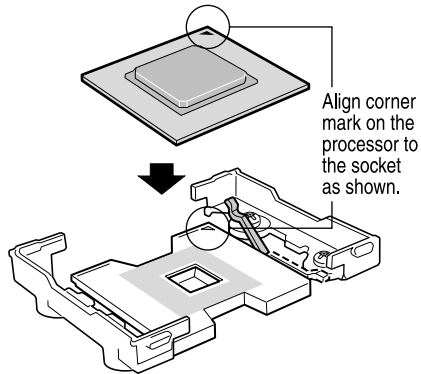

FIGURE 5-17 Inserting the Processor
4. **Insert the processor into the socket as shown in Figure 5-17.**